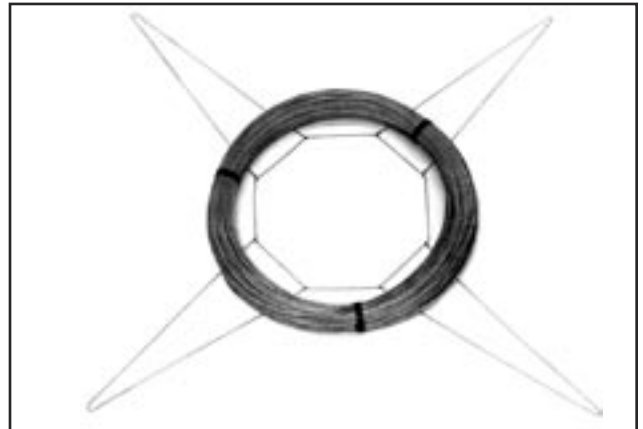

Figure 3 - Place banded coil of strand on top of the dispenser
1.02 With all four legs of the dispenser unfolded lay it on level ground. Place the banded coil of strand on top of the dispenser. Be sure the coil is centered on the dispenser. (Figure 3)